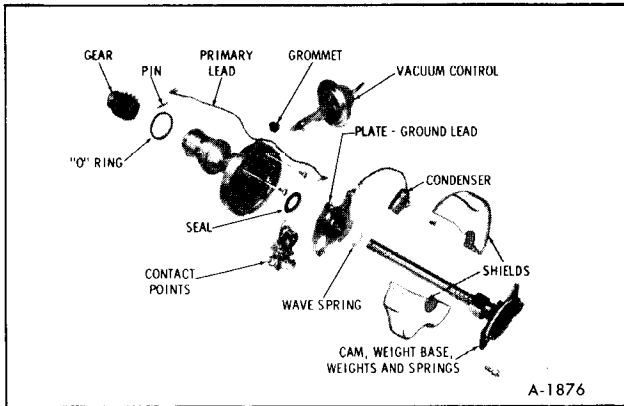

Figure 37-Distributor Disassembled
4. Remove the retaining ring from the upper bushing and lift the breaker plate and felt wick from the bushing. (figure 37)